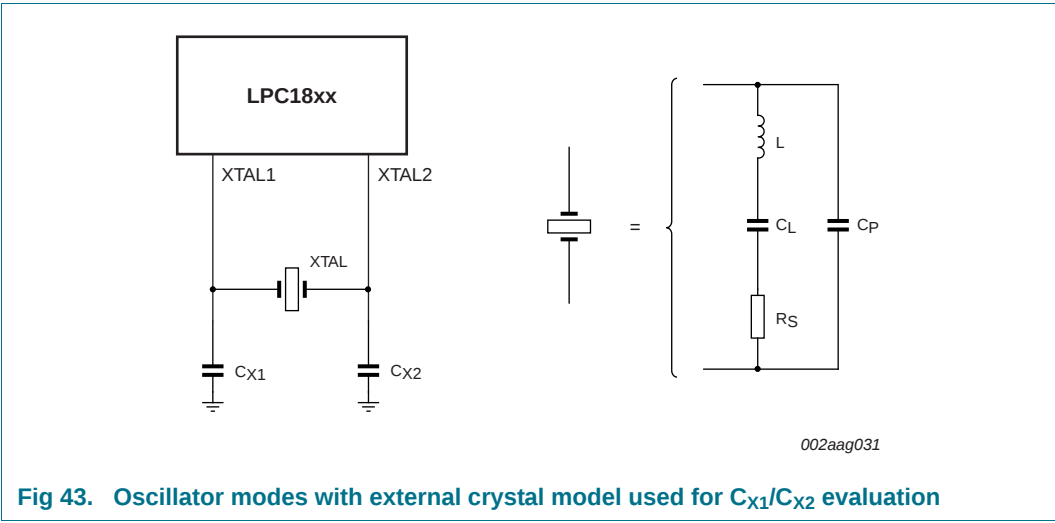

Fig 43. Oscillator modes with external crystal model used for CX1/CX2 evaluation
- External components and models used in oscillation mode are shown in Figure 43, and in Table 37 and Table 38. Since the feedback resistance is integrated on chip, only a crystal and the capacitances  $C_{x1}$  and  $C_{x2}$  need to be connected externally in case of fundamental mode oscillation ( $L$ ,  $C_L$  and  $R_s$  represent the fundamental frequency). Capacitance  $C_P$  in Figure 43 represents the parallel package capacitance and must not be larger than 7 pF. Parameters  $F_c$ ,  $C_L$ ,  $R_s$  and  $C_P$  are supplied by the crystal manufacturer.